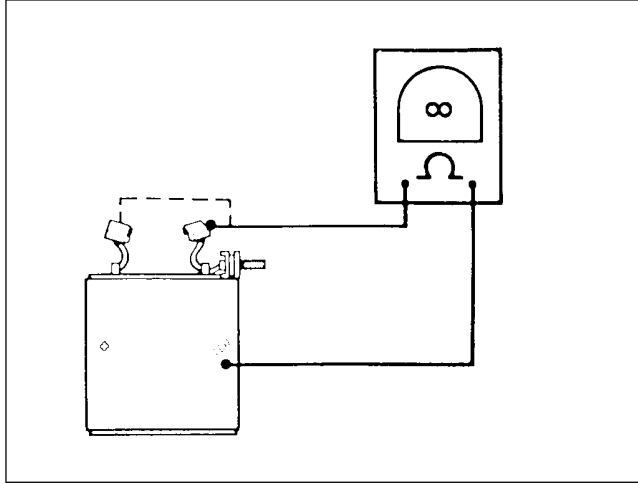

Figure 5-14. Grounded Field Test
13. See Figure 5-14. Check for GROUND^{ED} FIELD WINDING with an ohmmeter or continuity tester. Touch one probe to the frame, and the other probe to each of the brushes attached to the field winding. There should be no continuity (infinite ohms). If there is any continuity at either brush, the field winding(s) are grounded and the field frame should be replaced.